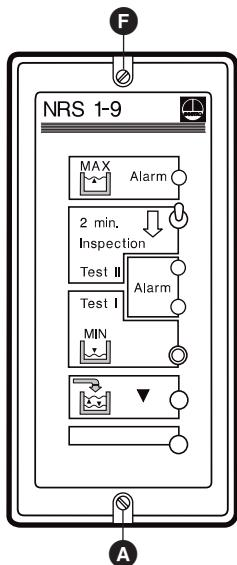

Fig. 6
Apply mains voltage. The green LED **6** lights up, **fig. 6**
2. When switching on the mains voltage the green LED ⑥ should light permanently, **fig. 6**.
5. Decrease level in boiler until the level falls below min. level. After the response delay the two red LEDs ③ must light up.
6. A low-level alarm can be simulated by pushing the button "TEST I" ④ whilst the electrode tip is submerged. Push the button until the response delay has expired. Both red LEDs ③ must light up.
After the response delay of 2 sec. the red LED ① must light up, **fig. 6**.
4. Decrease level in the boiler until the level falls below high level, the red LED ① must extinguish.
3. The green Led ⑤ must light up, **fig. 6**.